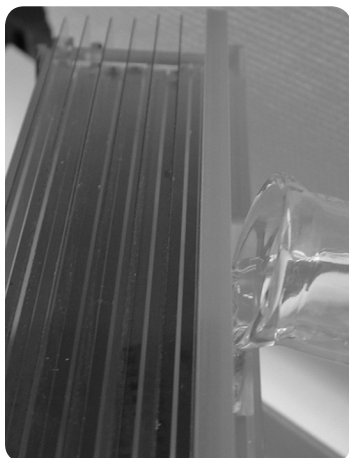

Fig 15. Pour the solution in a slow continuous stream.
- 2 De-aerate the gel solution for 5 minutes. Add the (initiator) 10% w/v APS and the (catalyst) 10% v/v TEMED* just prior to casting the gels. Pour the gel solution into the channel in the back of the caster. The solution will flow down the channel and fill the cassettes from the bottom (Fig 15).